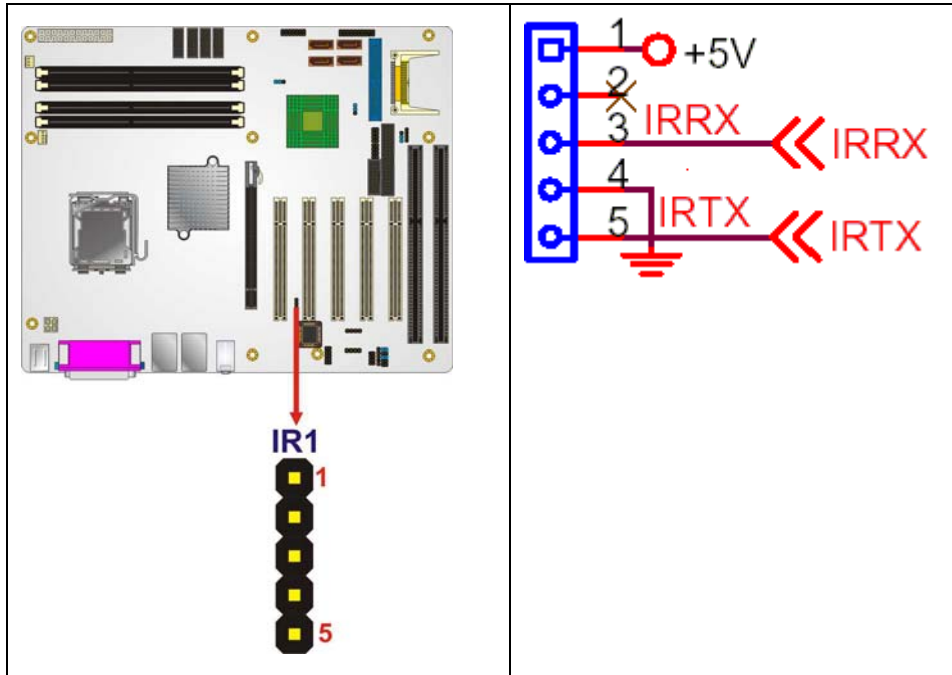

Figure 4-14: Infrared Connector Pinout Locations
- CN Location:** See Figure 4-14